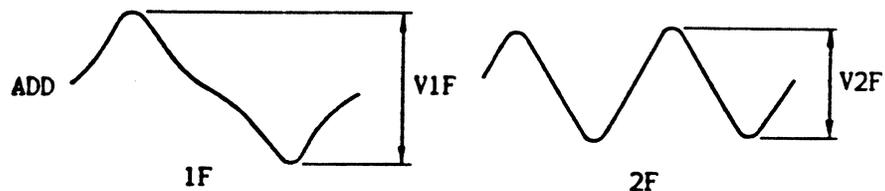

Fig. 415 Resolution Measurement
- (2) Start the stepping motor and load the level disk.
- (3) Shift the head to the innermost track.
- (4) Record one track using a constant 1F frequency (WRITE DATA frequency at 125kHz).
- (5) Measure the average read level V_{1F} in accordance with Fig.415.
- (6) Record using 2F [double the 1F of item (4)] as in item (4).
- (7) Measure the average read level V_{2F} in accordance with Fig.415.